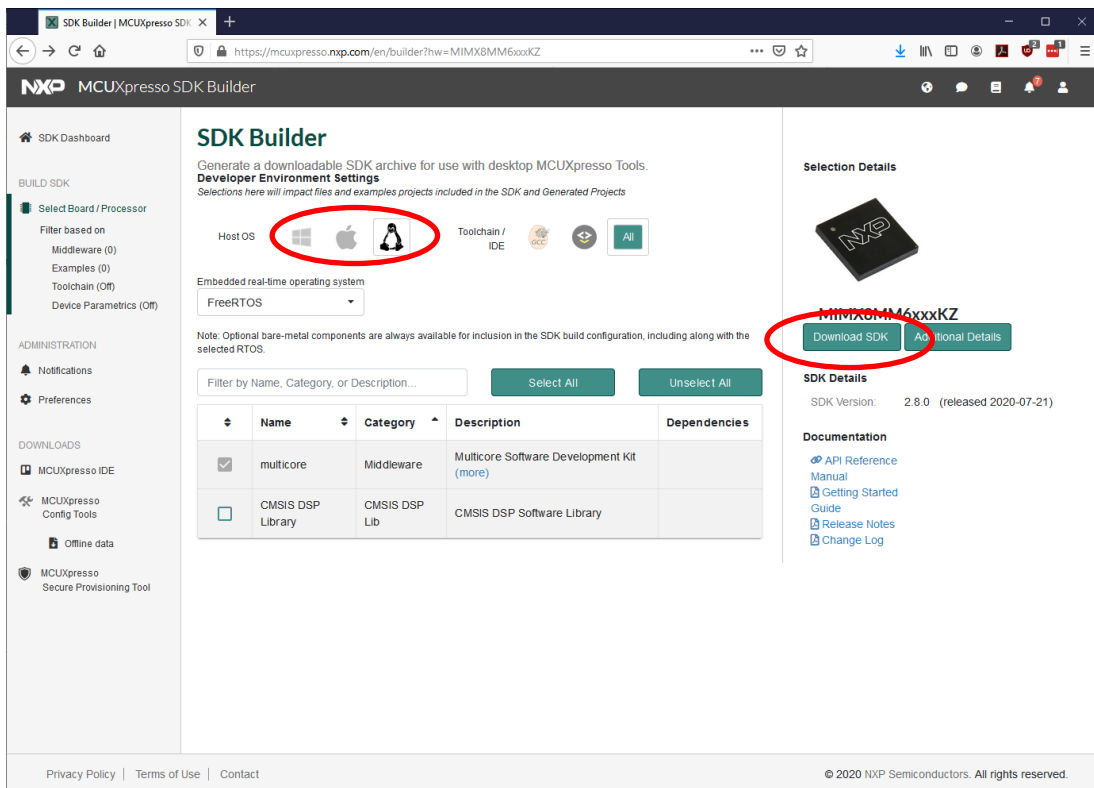

Figure 4 - Download SDK
5. When the SDK is ready select "Host OS" (we use Linux in this example) and then click on "Download SDK" as shown in Figure 4.